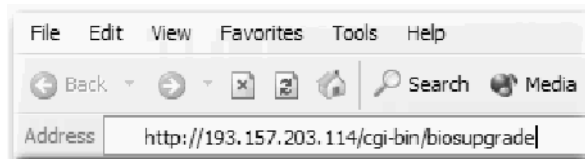

Figure 9: Entering the BIOS upgrade command
9. In the address bar of the browser, enter the following command and then press the Enter key (see Figure 9):